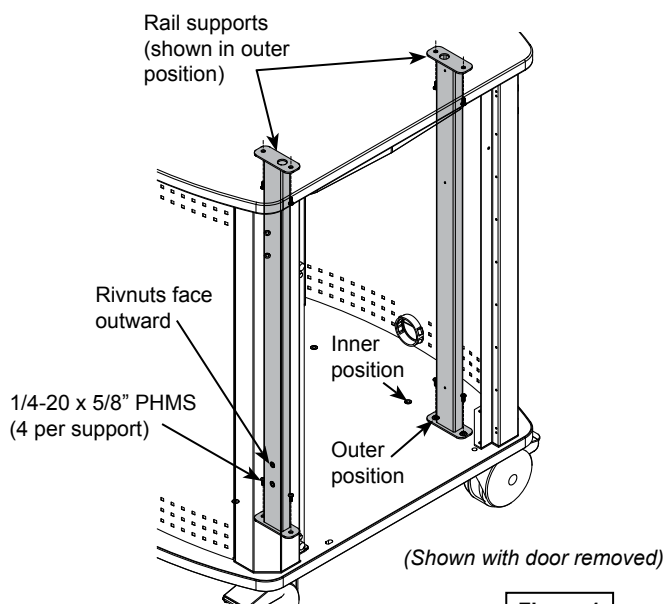

Figure 1
2. Position the rail supports as shown. **Figure 1**. (The 3 pre-drilled holes will face inward.)